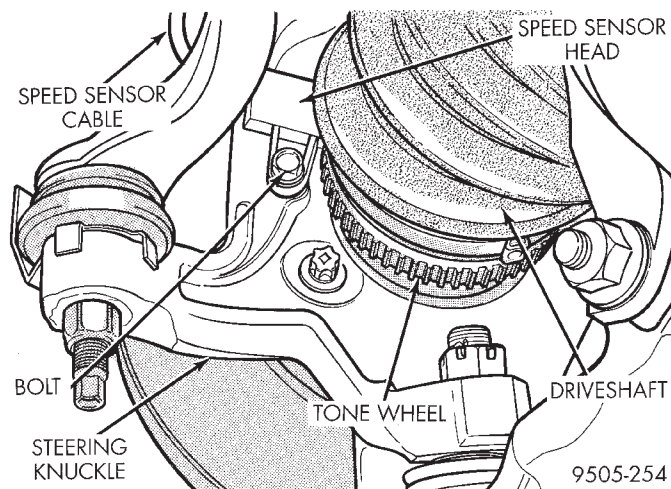

**Fig. 33 Speed Sensor Head Attachment To Steering Knuckle**
(5) Remove bolt (Fig. 33) attaching the speed sensor head to the steering knuckle. Then remove speed sensor head from steering knuckle